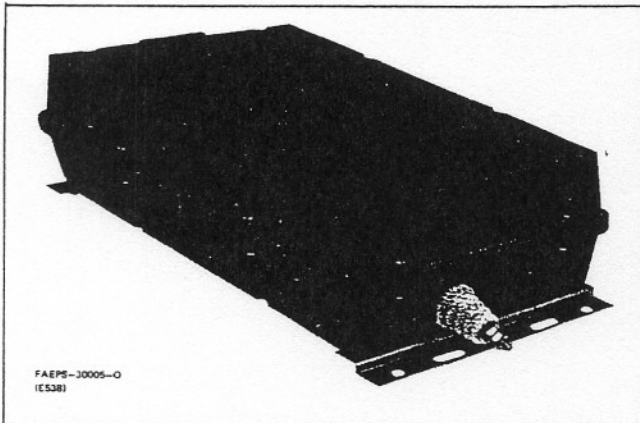

Figure 1. Automatic Antenna Tuner
1. INTRODUCTION (Refer to Figure 1.)